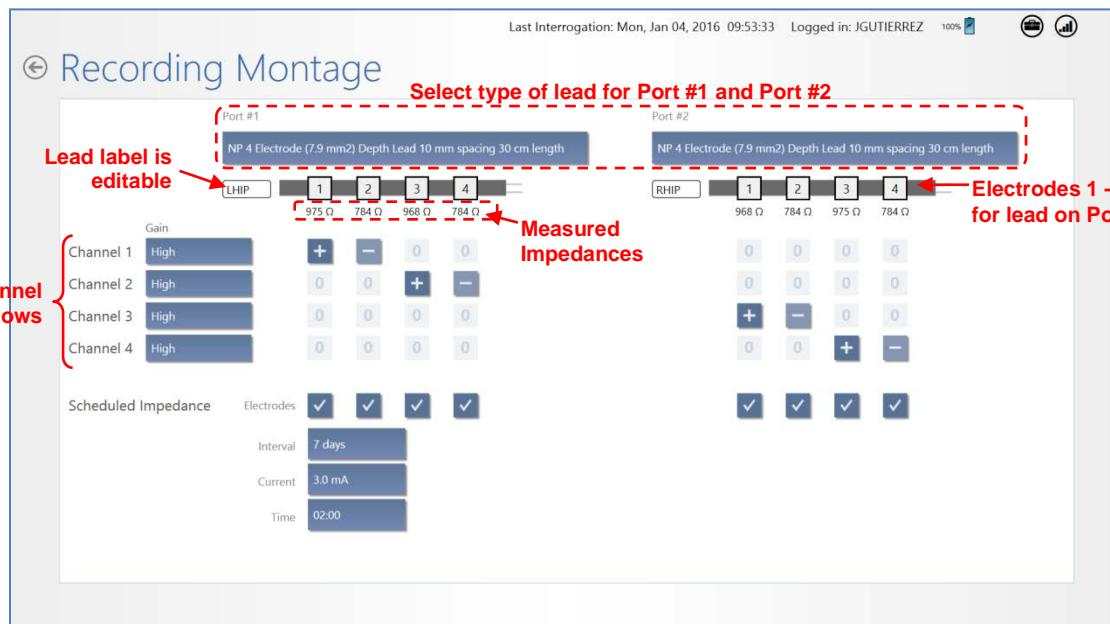

Figure 27 Recording Montage screen
4. **Set Capture Duration:** In the **DURATION** area at upper right (*Figure 27* above), select the **CAPTURE WINDOW** field and select one of the capture duration options. After your selection, the **DURATION** area shows the total duration (in seconds) and the number of ECoGs that can be stored at this duration.